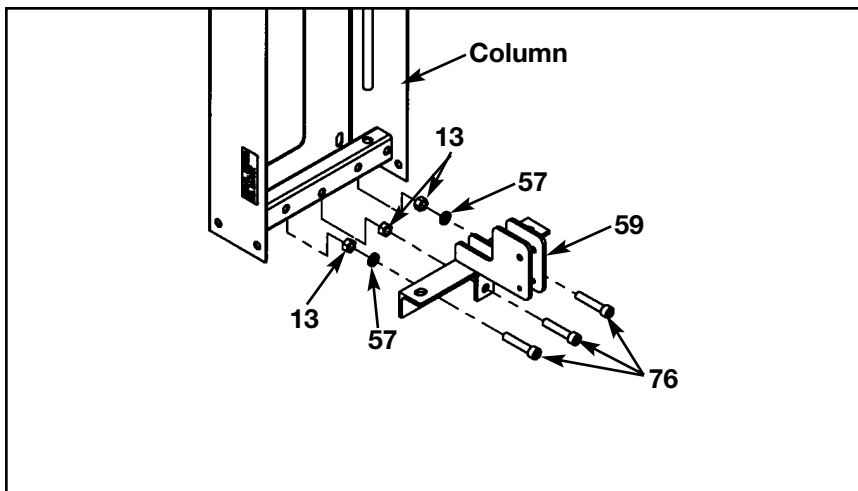

Figure 8
- H. Attach pulley mount (#59) to column as shown in Figure 8. Securely tighten hardware.